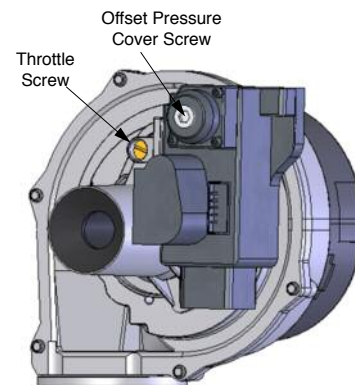

Fig. 4: Combustion Adjustment - Prestige Burner
5. If the combustion level during low fire is not within  $\pm 0.2\%$  of the combustion level measured at high fire, adjust the metal offset screw inside the brass fitting on the top right of the gas valve (see Fig. 4) as follows.
If the combustion levels during high fire is outside the recommended combustion settings adjust the THROTTLE SCREW (see Fig. 4) as follows: